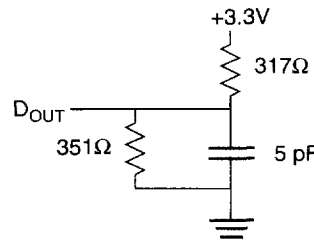

Figure 2. Output Load Equivalent
1. The parameter is tested with  $CL = 5$  pF as shown in Figure 2. Transition is measured  $\pm 200$  mV from steady state voltage.